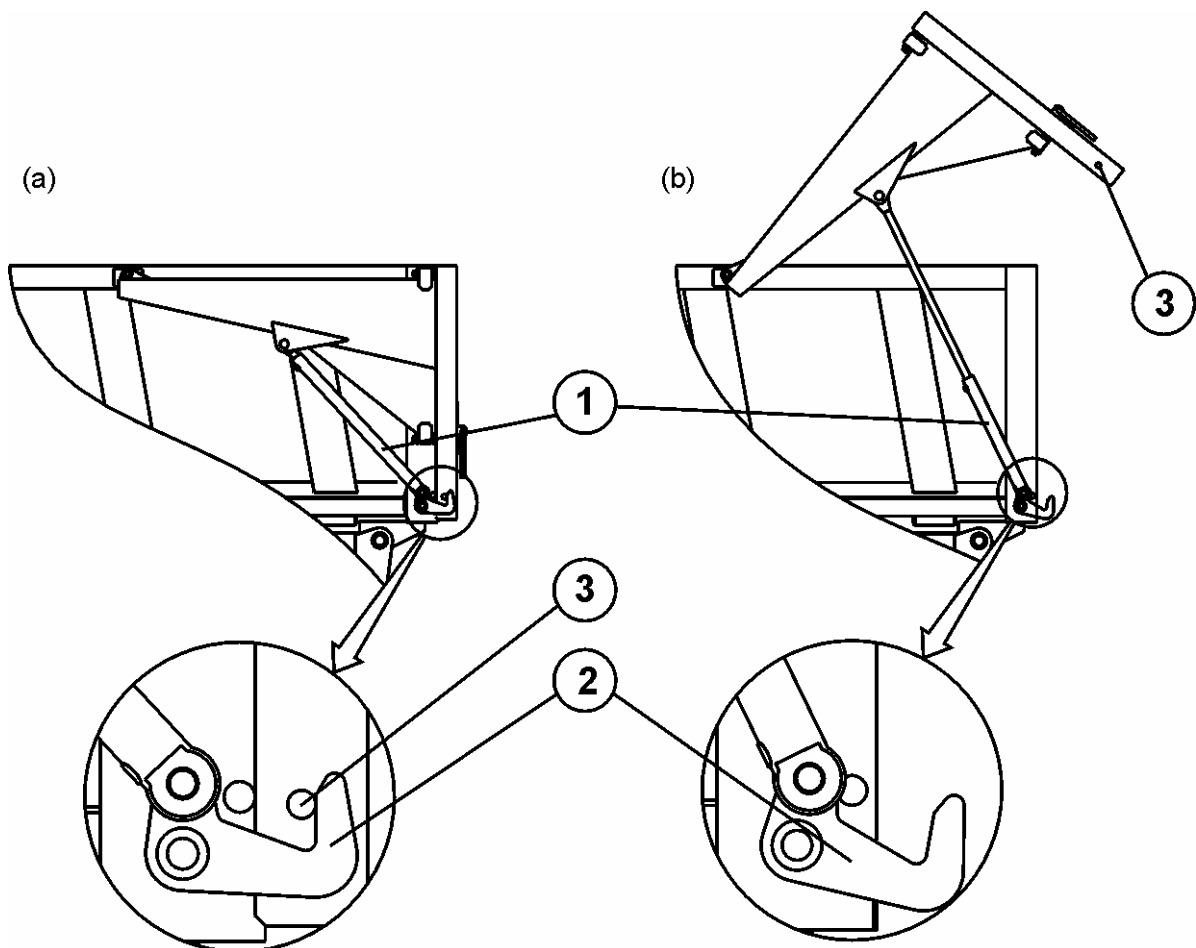

Fig. 6 Operation of the rear flap.
The circuit for raising / lowering the rear flap consists of two double-action hydraulic cylinders and hydraulic conduits. When the system works, cylinders control operation of locking hooks. When the rear flap is closing, locking hooks lock it (pos. (a), fig. 6). The system is supplied with oil from tractor's hydraulic system.
When the rear flap is lowered the locking hook must lock completely the locking bolt of the rear flap (3) (fig. 6).
- Close the rear flap by controlling relevant circuit from the tractor. Closing / opening the flap is realised with 2 double-action hydraulic cylinders (pos. 1 fig. 5). The rear flap closing should be realised until the flap becomes locked with locking hooks (pos. 2 fig. 6).